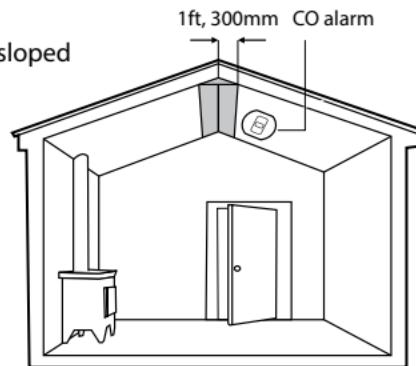

Figure 2
- In rooms with sloped ceilings and fuel burning appliances, the CO alarm should be located at the high side of the room, see Figure 2.